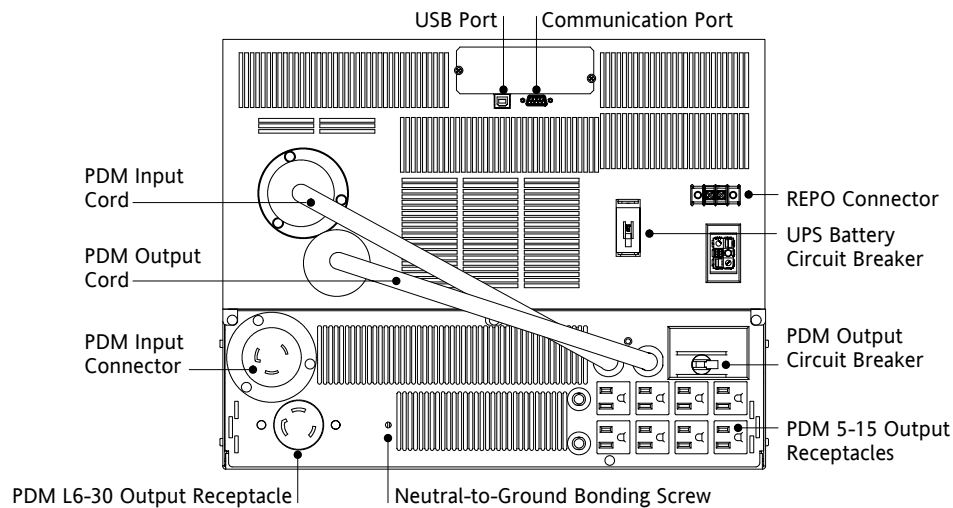

Figure 8. UPS and Plug-Receptacle PDM Installation (L6-30 Model shown)
2. Verify that the PDM output circuit breaker is in the OFF position (see Figure 8).
7. Plug the input and output cords of the PDM into the input and output power connectors on the UPS rear panel (see Figure 8).